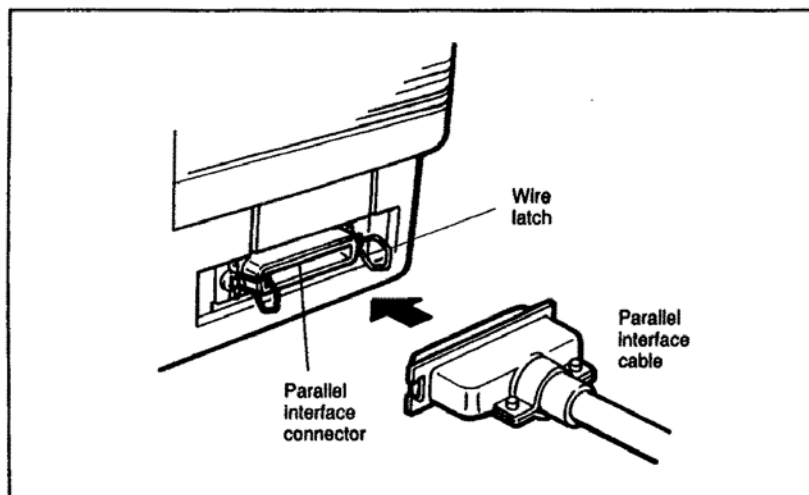

Figure 1-7. Connecting the parallel interface cable.
1. Figure 1-7 shows the connector, which is on the right side of your printer, near the rear. Move the small wire latches out of the way and fit the cable connector onto the printer connector. They are designed to fit only one way, so this is a foolproof connection. Be sure the connectors are firmly attached, but do not use a lot of force; it is possible to bend or break the connector pins.